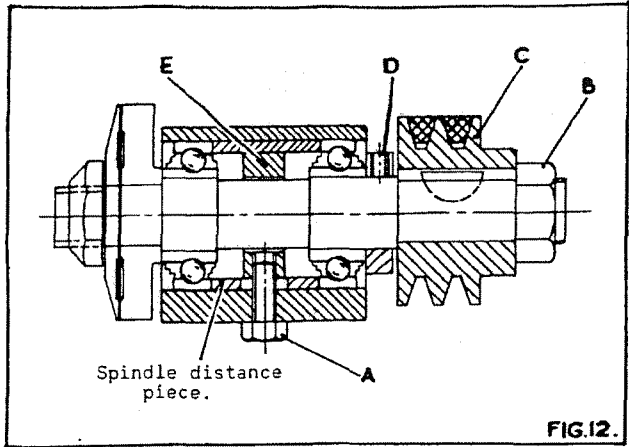

FIG. 12
1. Loosen the hexagon head adjuster bolt "A" in Fig. 12, and tap spindle where required, taking care not to damage the threads on the spindle end. Place a steel rule along both sides of riving knife to check whether the saw is central.
3. Now working from the pulley end of the spindle. Remove the 1" fine thread nut (right hand thread) "B" in Fig. 12, remove spindle pulley "C" which is keyed to the spindle.
The bearings should now be replaced as the arrangement in Fig. 12. Care should be taken not to pre-load the bearings, i.e. the spindle distance piece should be just free between the two bearings. When the locking collar has been replaced and the assembly is ready to be replaced in the spindle housing a socket head grub screw should be inserted in the spindle trapping collar "E". This will assist in lining up the 1/4" whit. x 1" long hexagon head bolt "A" on assembly.